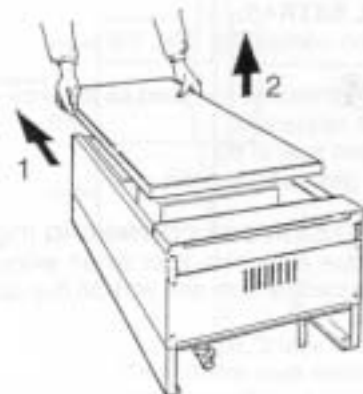

Fig. 20
- Carefully slide the front panel a few millimetres up towards the top of the appliance until it is free from its slot, and then lift off (Fig. 20).